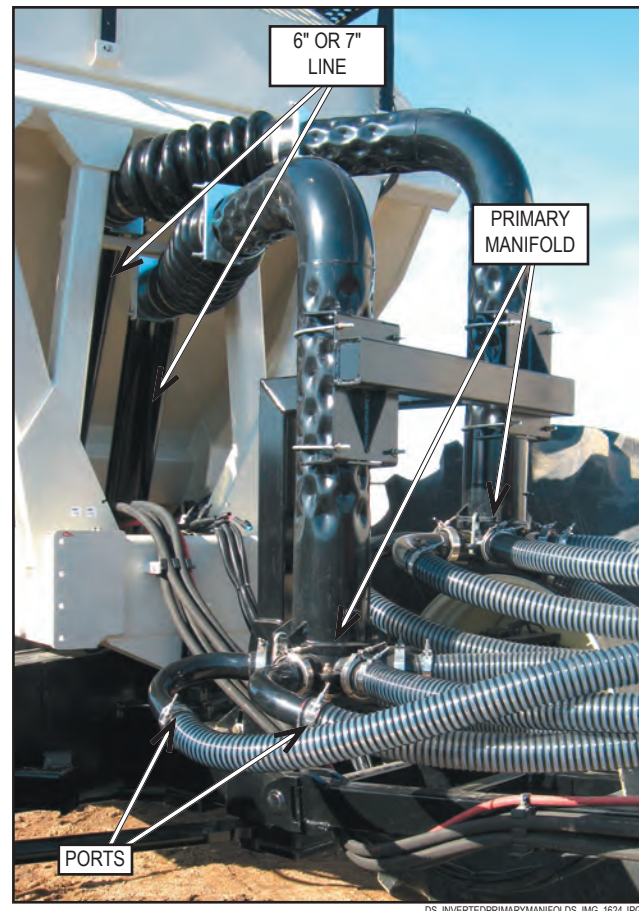

Figure 1 - Primary Line, Manifold and Ports
3. Count the number of ports on the primary manifold. This is the manifold being fed by the 6" or 7" pipe from the Air seeder tank, refer to *Figure 1*.